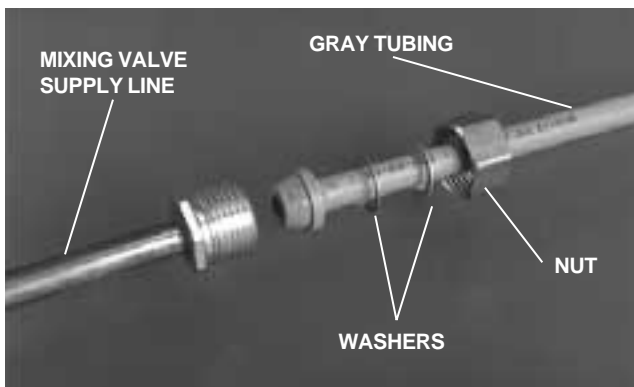

FIGURE 31
1. Slide two brass washers and a brass nut over the small end of both three foot long gray tubings (see Figure 31). Insert the gray tubings into the mixing valve supply lines. The nipple end must be toward the mixing valve. Slide the washers and nut